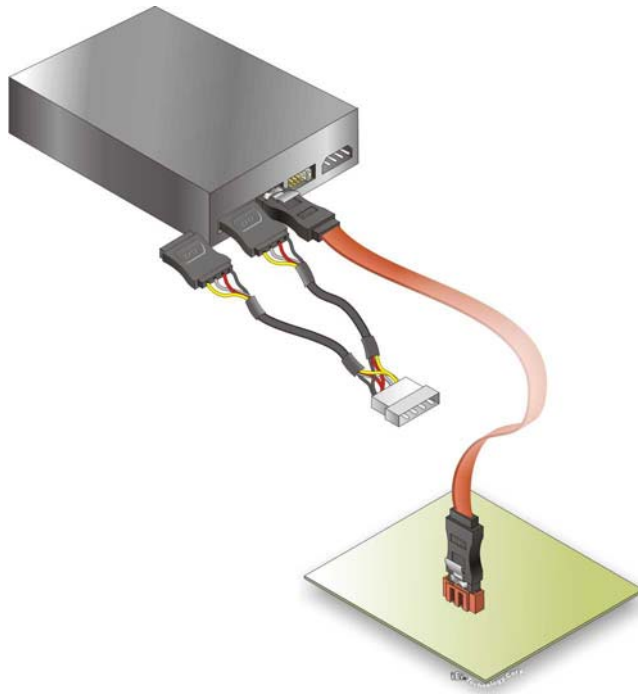

Figure 4-9: SATA Power Drive Connection
Step 3: **Connect the cable to the SATA disk.** Connect the connector on the other end of the cable to the connector at the back of the SATA drive. See **Figure 4-9**.
Step 4: **Connect the SATA power cable.** Connect the SATA power connector to the back of the SATA drive. See **Figure 4-9**.